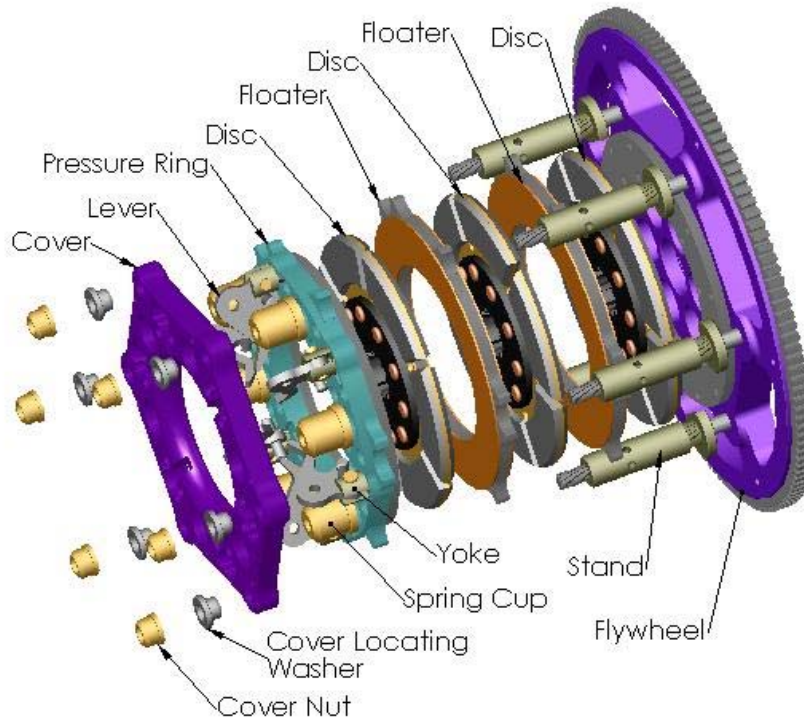

Figure 1
- 5) Install discs and floater plates in proper sequence and insert pilot shaft to line up and hold discs into position (See Figure 1).